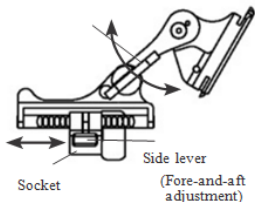

Figure 2.21. Tilt and flip-up assembly mechanisms
Set your eye relief by depressing the side buttons (or press down on side lever on metal mount) (see Figure 2.21.) and carefully move the monocular fore or aft until the eyecup comfortably seals around the eye. readjust the helmet straps as required for vertical adjustment.
(4) Turn power switch to on. Adjust the tilt by using the tilt adjustment lock knob (or tilt adjustment lever on metal mount) (Figure 2.21.) until you obtain a comfortable viewing angle.
(6) Adjust the eye relief distance by depressing the side buttons (Figure 2.21.) (or press down on side lever on metal mount) and sliding monocular fore or aft to obtain a full field-of-view of the image. reset the diopter adjustment for best image.